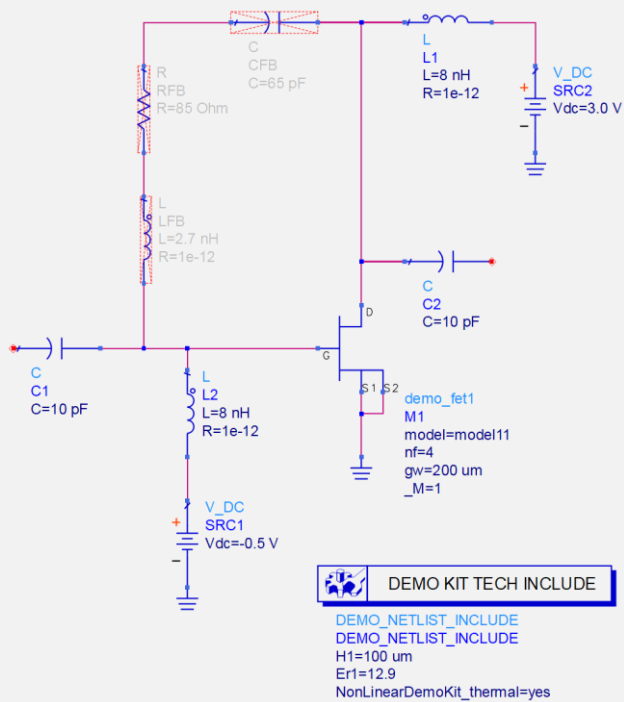

Figure 29. Amplifier Stability Template
2. Open the schematic view for **a1_stability**. The schematic is shown in Figure 29. Notice that this circuit is very similar to the FET amplifier from the previous sections.